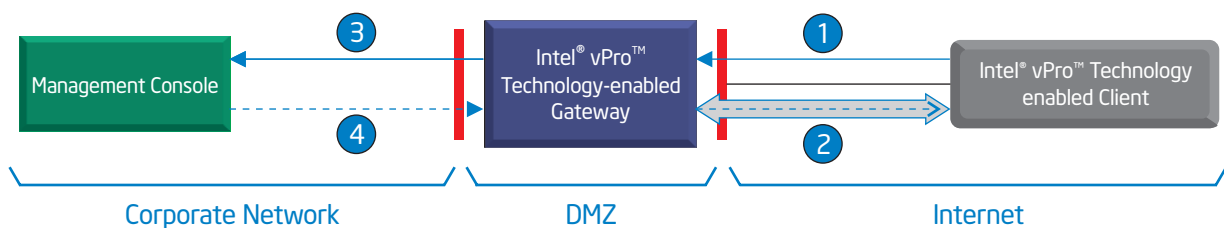

Figure 2. Remote Access Client Connection Process Description
**Remote Access Client Connection Process Description:** (see Figure 2)